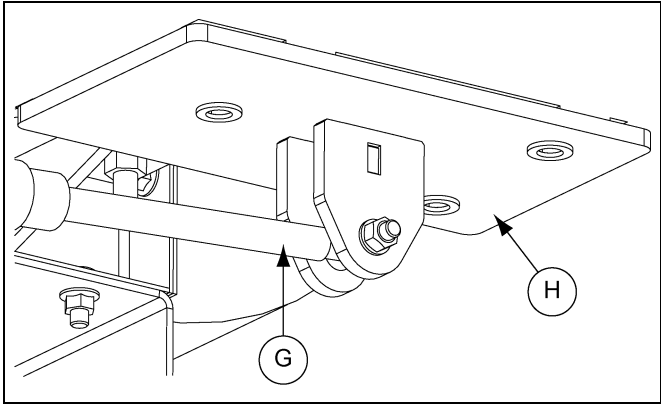

Figure 5C Torque Arm Plate
6. Install the torque arm (G) between the two (2) plates (H) that are located on the bottom of the reducer drive. Secure using bolt with washers and lock nuts. Attach the other end to the torque arm bracket (I) on the conveyor using two bolts, washers and lock nuts. Tighten the torque arm by turning the turnbuckle (E). Adjust the position of the reducer. (See Figure 5C.)